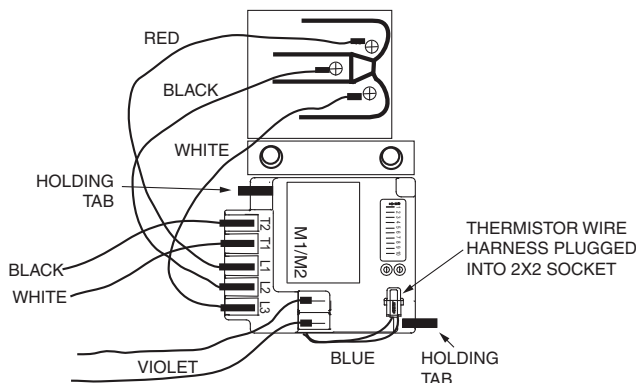

Fig. 54 — CoreSense Communication Module Mounting
3. Install the CoreSense module in the compressor terminal box as shown in Fig. 54, with the tabs holding the module in